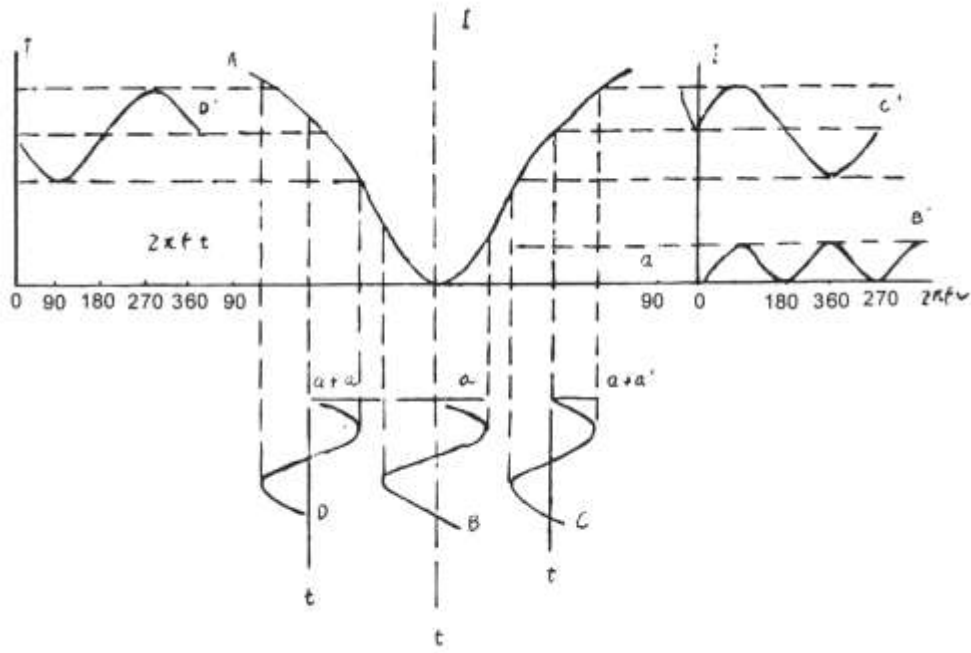

Figure 1
As shown in Figure 1, when the both ends of Faraday ring is connected to a frequency of  $f$  sinusoidal alternating voltage ( $u = U\sin 2\pi ft$ ), according to the Faraday Magneto-optical Effect, the vibration plane which the plane-polarized light goes through will add an additional angle of rotation:  $\alpha_1 = \beta \cdot \sin 2\pi ft$ . When there is a Faraday ring between the polarizer and the analyzer, the intensity signal of emission light from analyzer is as below:
- In the quadrature position, the curve B and B' in Figure 1 can be obtained. The light intensity signal is the superposition of the light intensity of a constant frequency and a  $2f$  alternating light intensity.
- When the quadrature position is deviated from the right, the curve C and C' in Figure 1 can be obtained. The light intensity signal is the superposition of the light intensity of a constant frequency and a  $2f$  alternating light intensity, see curve C'.
- When deviating from the quadrature position leftward, the curve D and D' in Figure 1 can be obtained. The light intensity signal is the superposition of the light intensity of a constant frequency and a  $2f$  alternating light intensity, see
If the analyzer deviates from orthogonal position of the polarized plane where the light reaches, the light goes through the alternating light intensity signal with frequency  $f$ , and through the photomultiplier tube, it is converted into an electrical signal with frequency  $f$ . According to figure 1, if the sample is left-handed, in the position of D, the microcontroller controls the stepper motor, turns the analyzer from left to right, and generates a pulse signal when passing the orthogonal position. After overshoot, the microcontroller controls the stepper motor and rotates the detector from right to left. When the orthogonal position is passed, it will also generate a pulse signal. The microcontroller also writes down the angle signal at this time. After repeated "zero crossing trigger", the angle of the record is averaged, and the optical rotation of the sample can be accurately measured.